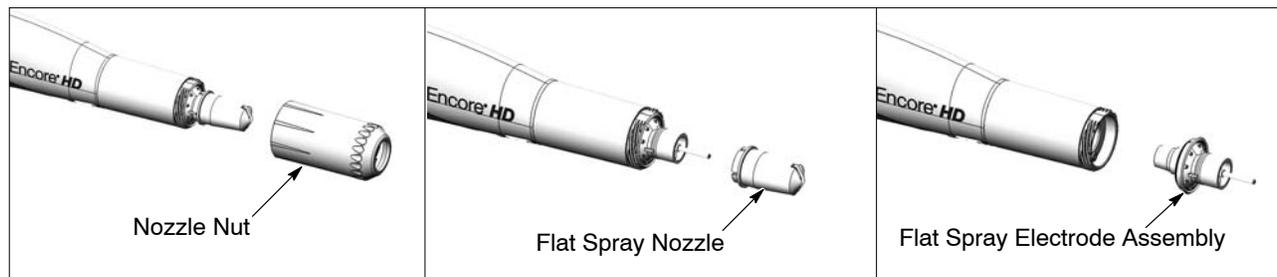

Figure 4-4 Changing a Flat Spray Nozzle
2. See Figure 4-4. Unscrew the nozzle nut counterclockwise.